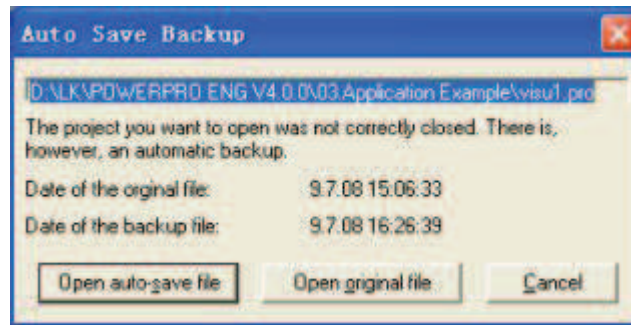

Figure 7-6-2 Auto Save Backup
- “Auto Save”: While you are working, your project is saved according to a defined time interval (Auto Save Interval [Min]) to a temporary file with the extension “.asd”. This file is erased at a normal exit from the program. If for any reason CoDeSys is not shut down “normally” (e.g. due to a power failure), then the file will not get erased. When you open the file again the following message appears, shown in figure 7-6-2. You can now decide whether you want to open the original file or the auto save file.